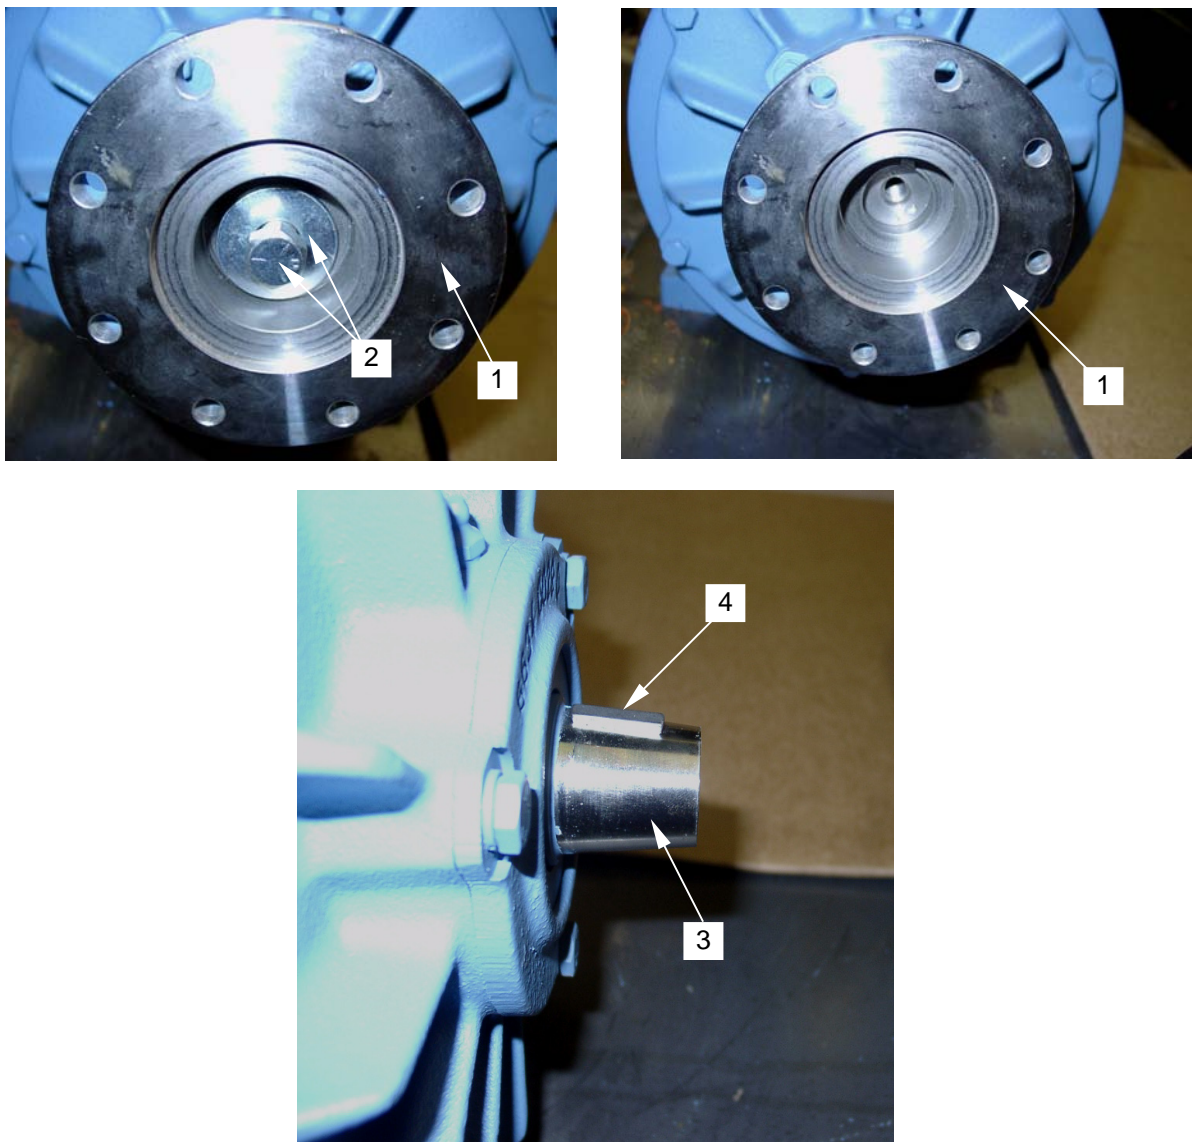

Figure 6. Removing Flanged Pump Shaft Extension
- Remove flanged pump shaft extension (**figure 6, item 1**).
- Remove bolt and flat washer (**figure 6, item 2**) from the flanged pump shaft extension (**figure 6, item 1**).
- Remove the flanged pump shaft extension (**figure 6, item 1**) off the pump shaft (**figure 6, item 3**). Retain key (**figure 6, item 4**).